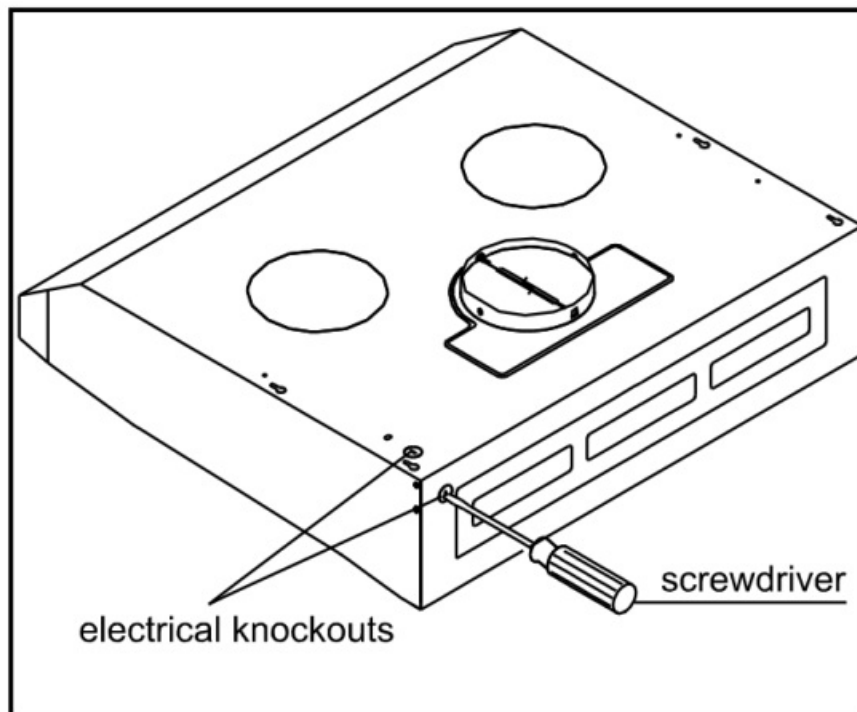
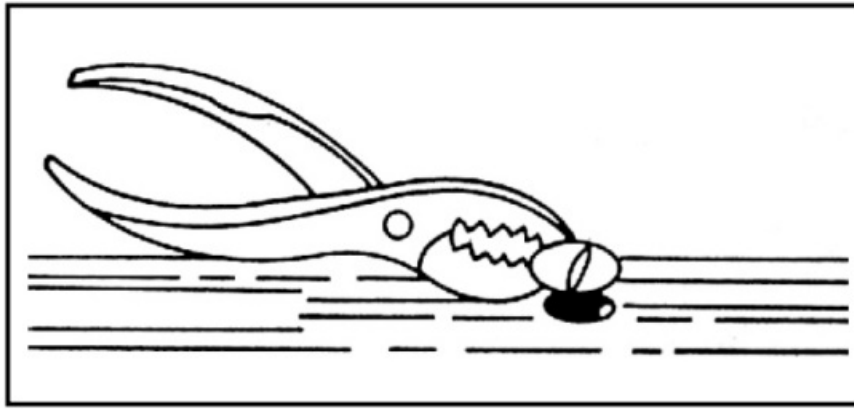

Fig.5 Electrical knockouts
Fig.6 Remove the electrical knockouts
1. Remove the top or the rear electrical knockout according to the location of the power cable. (Fig. 5)
2. Loosen the knockout with a screwdriver and use pliers to pull out the loosened knockout. (Fig.5 & Fig.6)